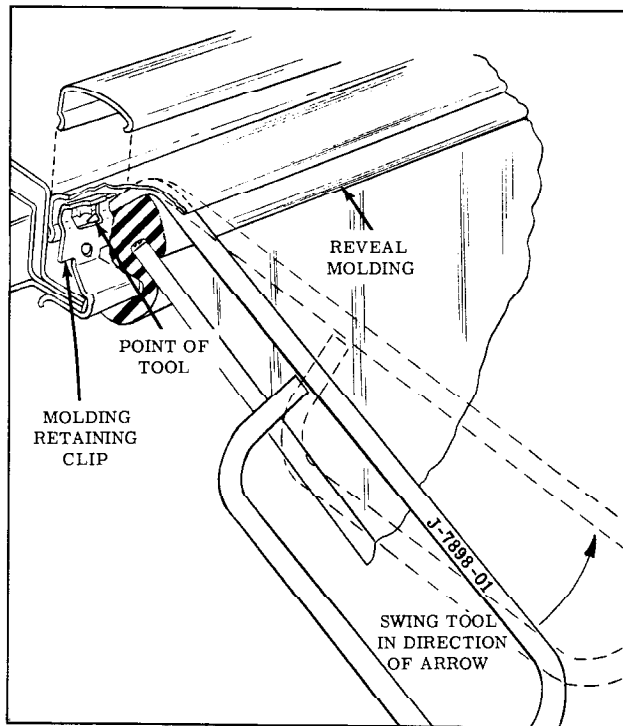

Fig. 17-5 Removing Reveal Molding
6. On all styles except "67" styles, Tool J-7898-01 may be used to remove the side and upper reveal moldings. When using Reveal Molding Removing Tool J-7898-01, carefully lift up upper end of reveal molding sufficiently to engage point of tool between molding and molding clip as indicated in Fig. 17-5. Swing tool slightly as indicated in illustration, to disengage prongs of clip from molding and lift molding free of clip. Repeat this operation at each molding clip.